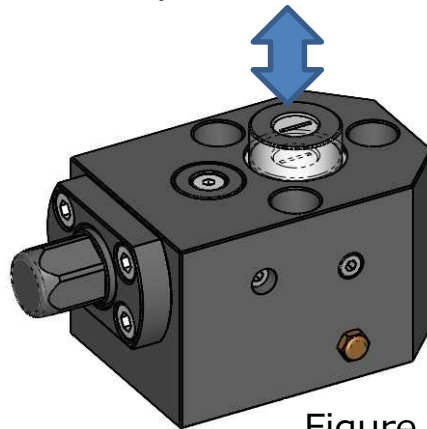

Figure 4
3. Operational Check (See Figure 4)
2. Operational Check (See Figure 4 on Page 3)